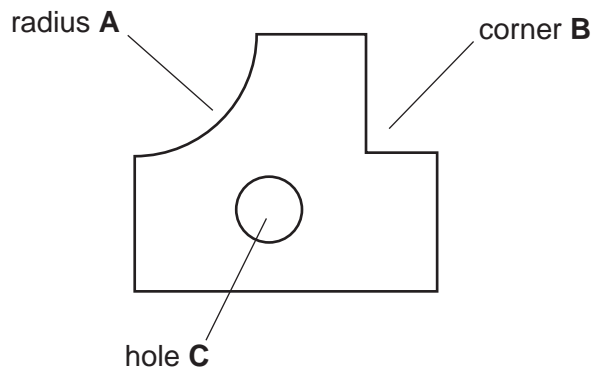

Fig. 2
- 2 Fig. 2 shows a piece of 5 mm thick mild steel.